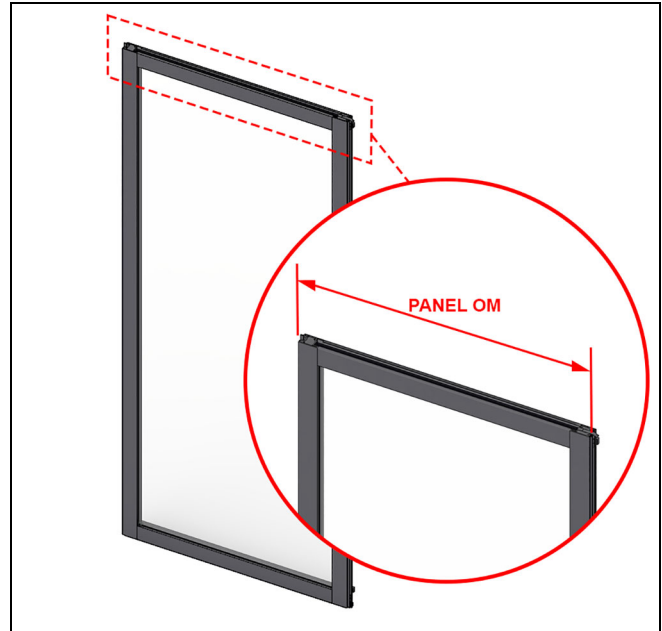

Figure 92
1. Measure the (H) stationary panel OM. Transfer that measurement to the interior track of the head jamb and center the top stationary bracket at that distance. See Figure 92.